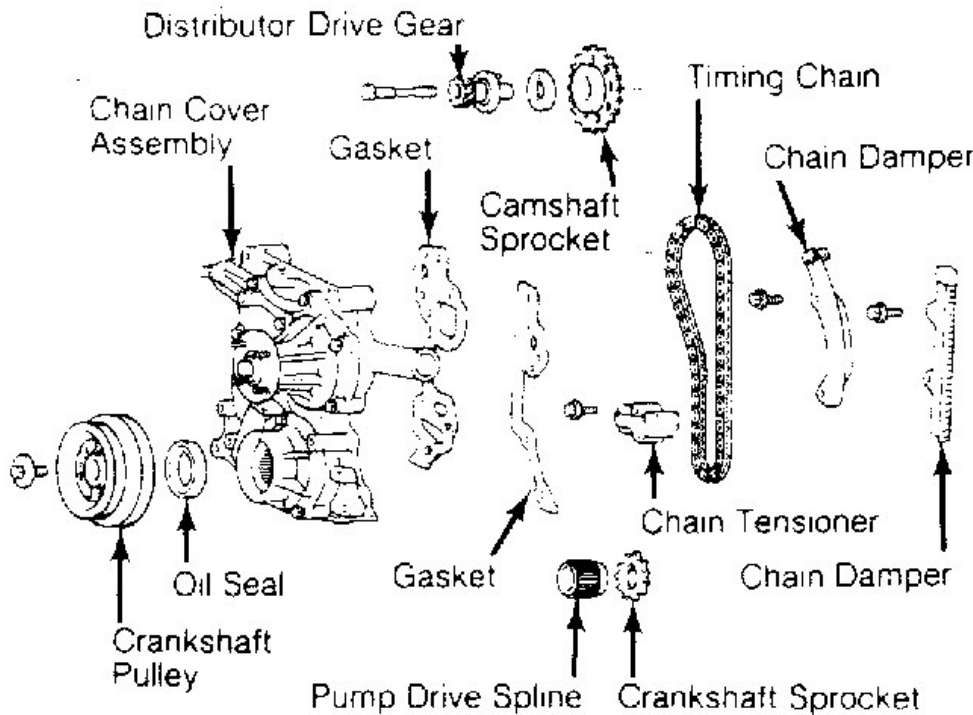

Fig. 3: Exploded View of Timing Chain Components
2. Remove power steering belts (if equipped). Remove A/C belt, compressor and bracket (if equipped) and lay aside. Remove fluid coupling with fan and coolant pump pulley. Set No. 1 cylinder to TDC of compression stroke. Remove crankshaft pulley. See **Fig. 3** .